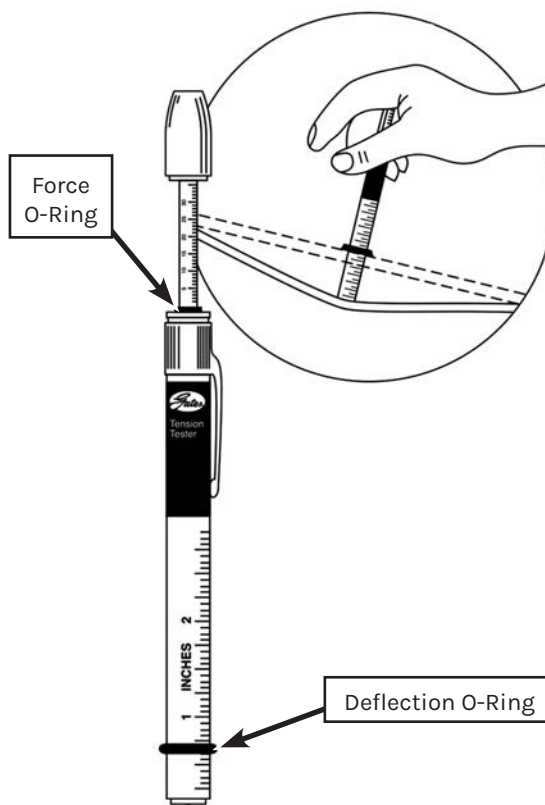
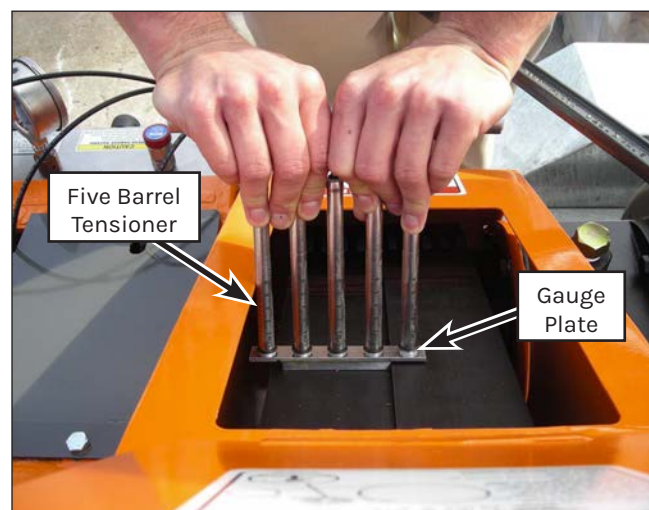

Figure 137: Single Belt Tension Tester.
Figure 138: Power Band Tensioning
4. Adjust the deflection O-ring (Figure 137) on a belt tension tool for the proper deflection as specified on the decal. Slide the force O-ring to the bottom of the scale. Use a five barrel tension tool if power bands are used on your unit (Figure 138).
5. Position the tension tool in the middle of one of the belts mid-way between belt pulleys. Press on the tool until the deflection O-ring is even with the adjacent belt. On five barrel tensioners, press until the gauge plate (Figure 138) touches the adjacent belt.
6. Release pressure and inspect the reading at the bottom edge of the force O-ring(s) (Figure 137) on the tension tool. Adjust the